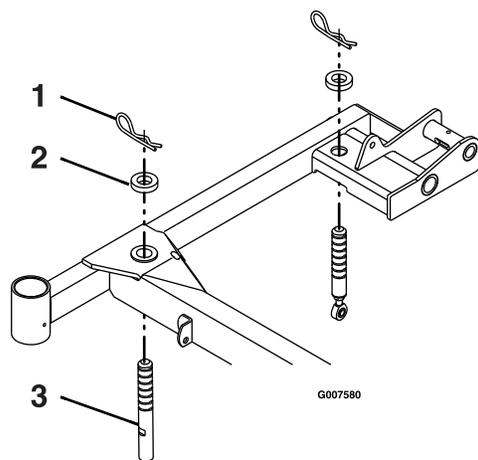

Figure 69
3. Verify that all hairpin cotters are in the 7.62 cm (3 inch) mower-deck-height holes with the spacers under the hairpin cotters (Figure 69).
4. Shorten or lengthen each mower deck support pin to obtain blade tip height of 7.62 cm (3 inches) at the front of the deck and 8.26 cm (3 1/4 inches) at the rear of the deck (Figure 69).